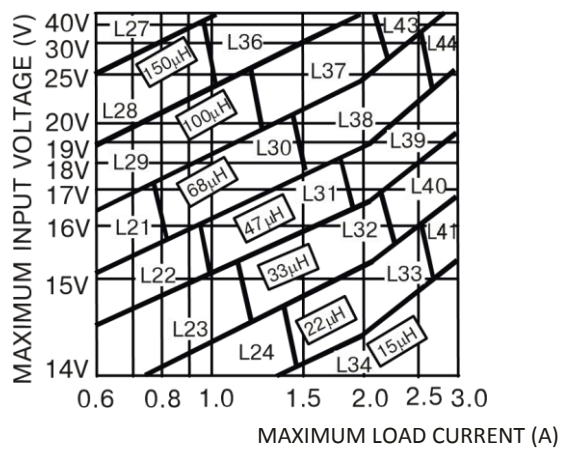
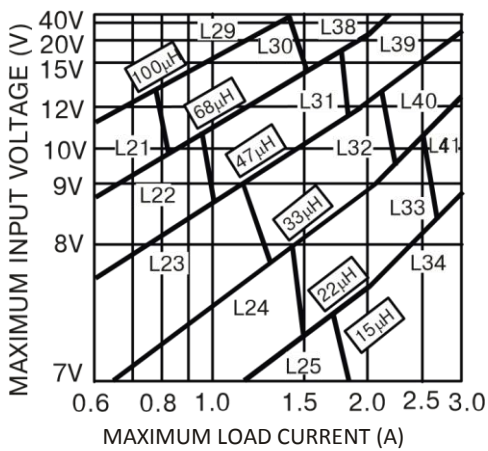

Figure 6. LM2596-12
Figure 5. LM2596-5.0
**A.** Select the correct inductor value selection guide from Figures Figure 4, Figure 5, or Figure 6. (Output voltages of 3.3V, 5V, or 12V respectively.) For all other voltages, see the design procedure for the adjustable version.
**A.** Use the inductor selection guide for the 5V version shown in Figure 5.
**B.** From the inductor value selection guide shown in Figure 5, the inductance region intersected by the 12V horizontal line and the 3A vertical line is 33  $\mu$ H, and the inductor code is L40.